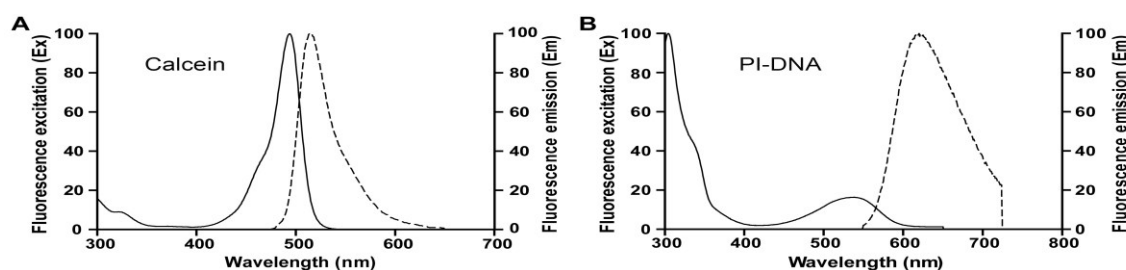

Figure 1. Excitation and emission spectra of Calcein and PI-DNA complex.
- The Calcein/PI Cell Viability/Cytotoxicity Assay Kit provides a convenient method for detecting cell viability and cytotoxicity of animal cells based on Calcein-AM (Calcein AM) and Propidium iodide (PI) double fluorescence staining of viable and dead cells simultaneously.
- Calcein generated from esterase in viable cells emits a strong green fluorescence with an excitation and emission maximum at 494nm and 517nm, respectively, while PI once bound to DNA has a maximum emission wavelength at 617nm when excited at 535nm. Please see Figure 1 for the excitation and emission spectra of Calcein and PI-DNA complex.